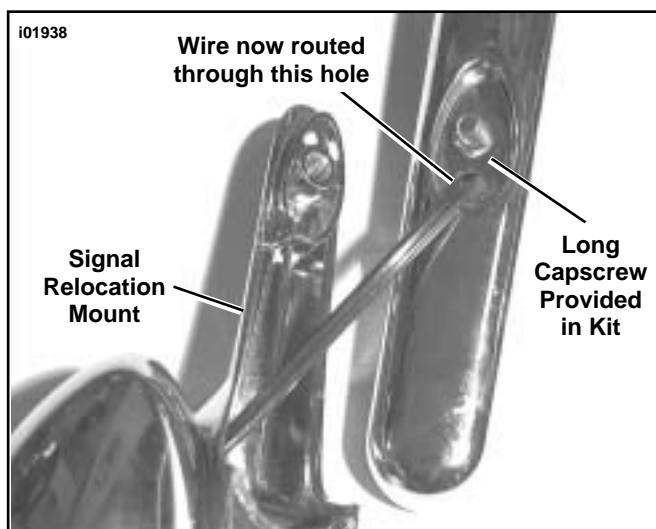

Figure 8. Route Wiring and install Signal Relocation Mount to Fender Support
14. See Figure 8. Route wires through left fender support as shown and using long capscrew and washer provided in kit, install signal relocation mount to fender support. Tighten capscrew securely.